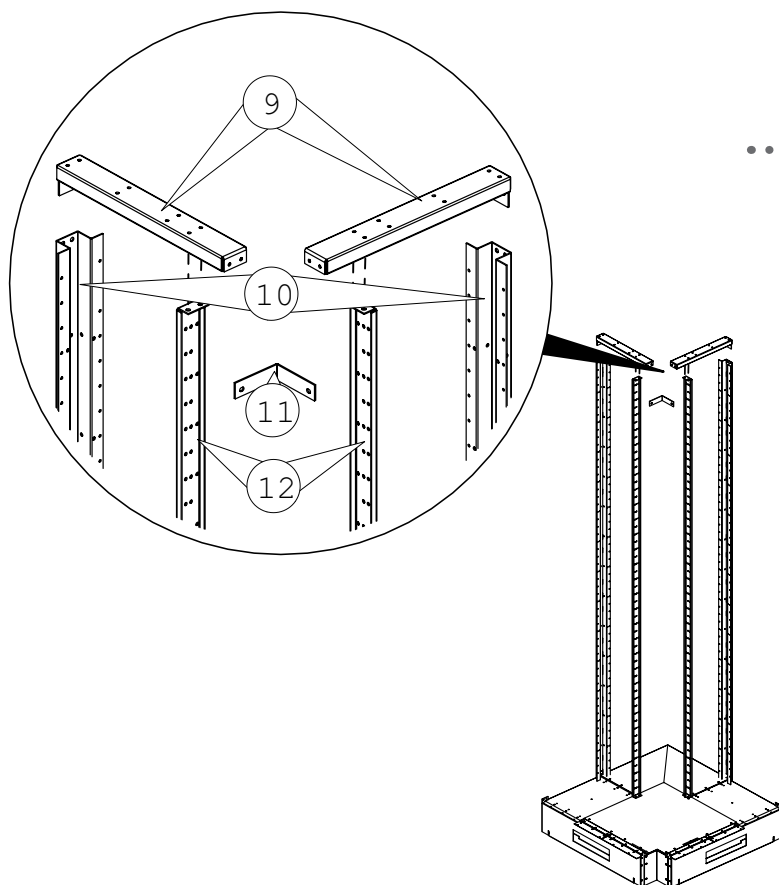

Fig 2.50. After assembling the base the structure is completed intermediate profiles, vertical profiles, and a jointing angle.
After assembling the base the cell structure is completed with intermediate profiles (9), back profiles (10), jointing angles (11), and supporting profile for busbar holders (12), Fig. 2.50.